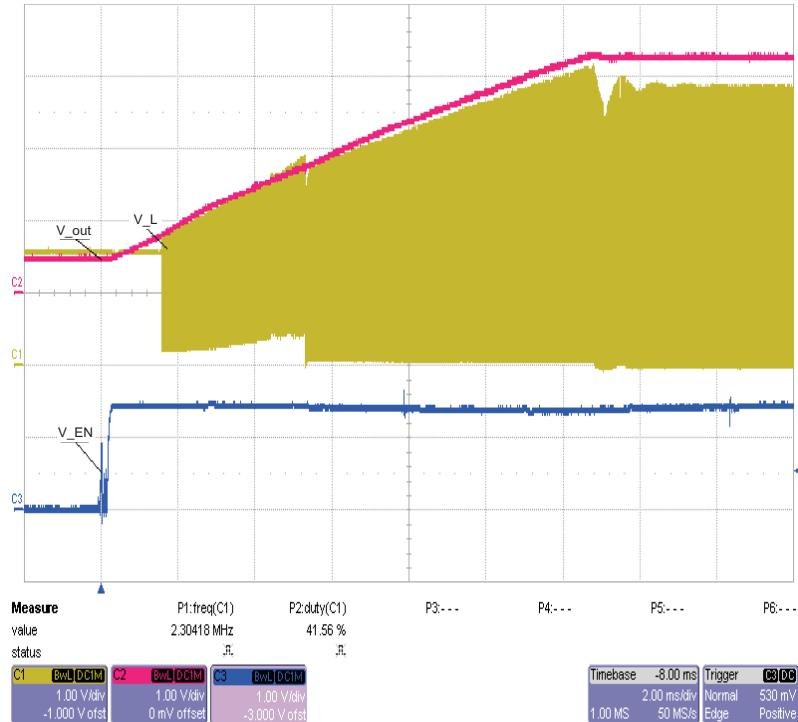

Figure 4. Power-Up With Enable: Boost Switch Node, V_L, Output, Enable; Vin = 1.5 V, Vout = 3.3 Vdc With 49.9- Ω Load
5. Remove the shunt on JP1-OFF and place on JP1-ON. Verify that the converter starts back up (see Figure 4).